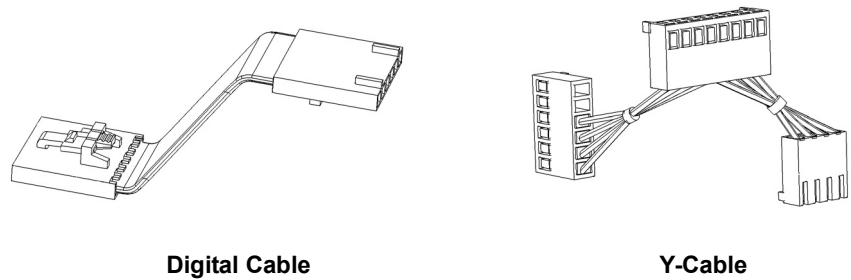

Figure 4-3. Digital and Y-Cables.
- 4 Next, connect the 6-pin connector on the supplied Y-cable assembly (Figure 4-3) to the AC power supply 6-pin connector, and then connect the 4-pin connector on the cable to the motherboard 4-pin connector where the jumper cable was removed in step 2.
- 6 Connect one end of the supplied (digital) 6-pin ribbon cable (Figure 4-3) to the 6-pin connector J1200 (next to the 4-pin connector J1000 on the motherboard).